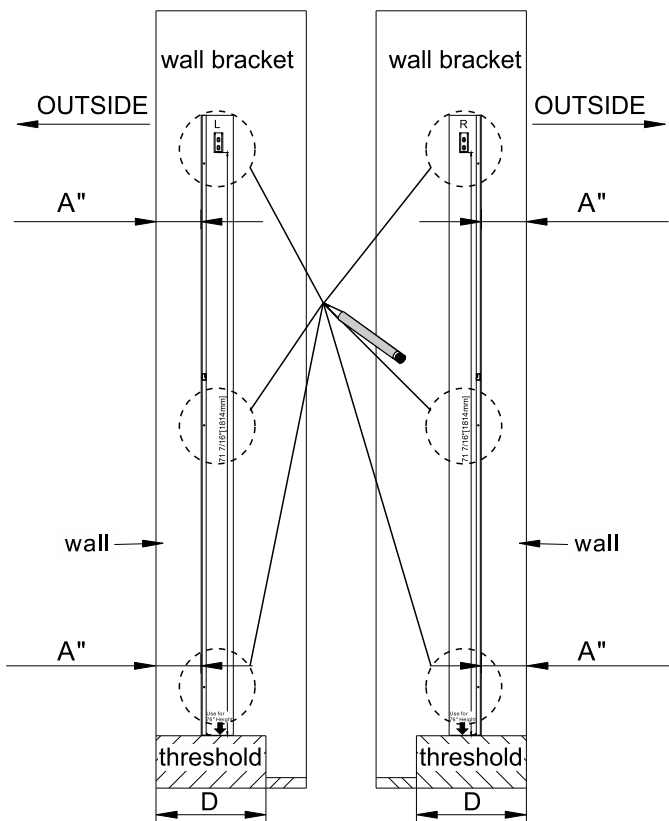
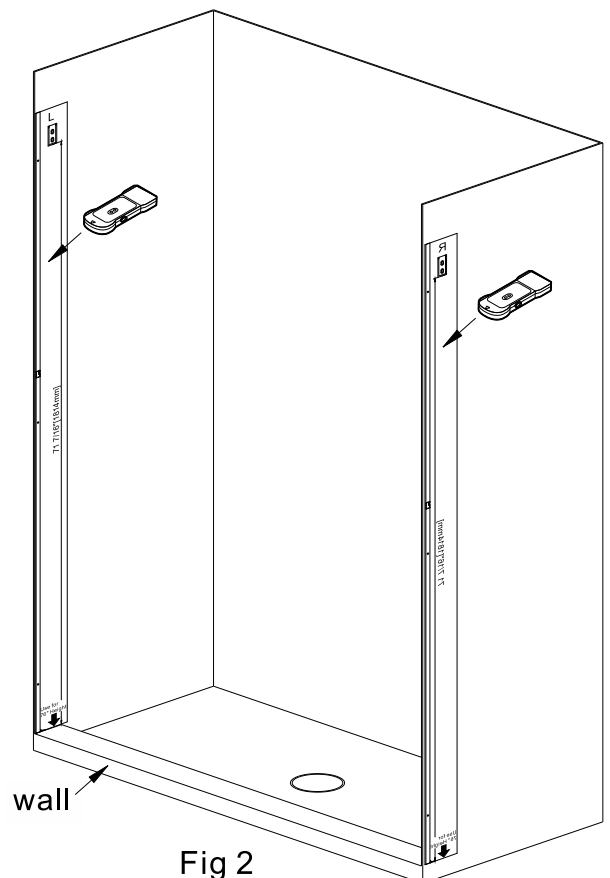

Fig 1
Fig 2
- This model requires a minimum 2-3/4" (70mm) of flat level threshold space for installation. 4-1/8" (105mm) of flat level threshold space is preferable. (Dimension "D" of Fig 1.)
- This shower door must be mounted to a stud. Minimum threshold space is required. **IMPORTANT:** Using a stud finder, ensure the wall intended to hold the door has a stud at the installation point. A stud in this location must be identified to support the support bar in order to proceed with the installation. If there is no stud in the shown area, we recommend employing a qualified contractor to install one. (Fig 2)
1. Tear off the tape of the **Template (L)** and **Template (R)** and stick them to the side wall of shower room as Fig 1 shows. Make sure the edge of templates are aligned with the edge of walls. Or measure in A" if you want to install the shower door behind the outside of the wall.
Note: A" is the distance between outermost surface of shower door and the outside of the wall. Make sure the **Template (L)** is sticked on the left wall. (Fig 1)
2. Mark the screw hole position through the templates to the wall. Use stud finder to make sure there are studs behind the positions of the templates. (Fig 1, Fig 2)